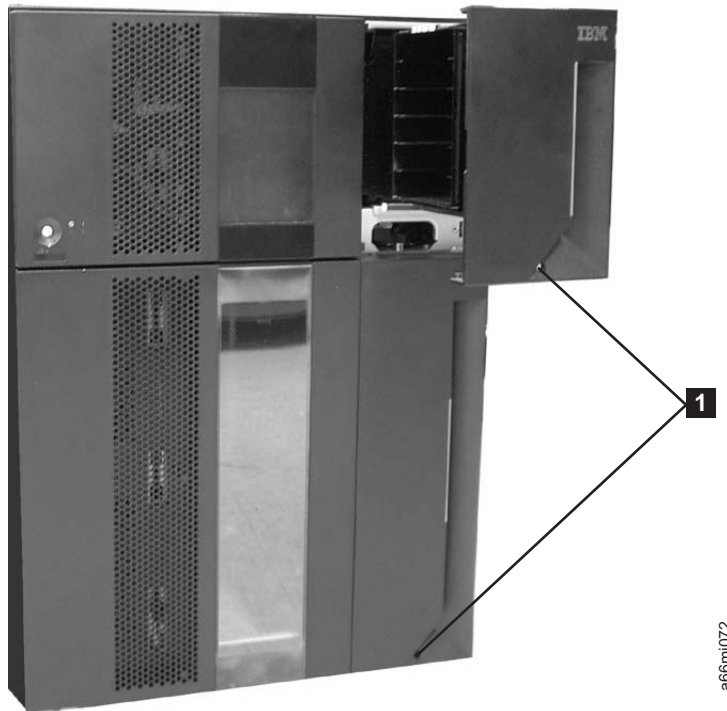

Figure 7-17. Access holes for manually unlocking I/O Station doors
1. Insert a T10 Torx wrench in the hole (1 in Figure 7-17) located on the front of the I/O Station door of the library module you wish to open.